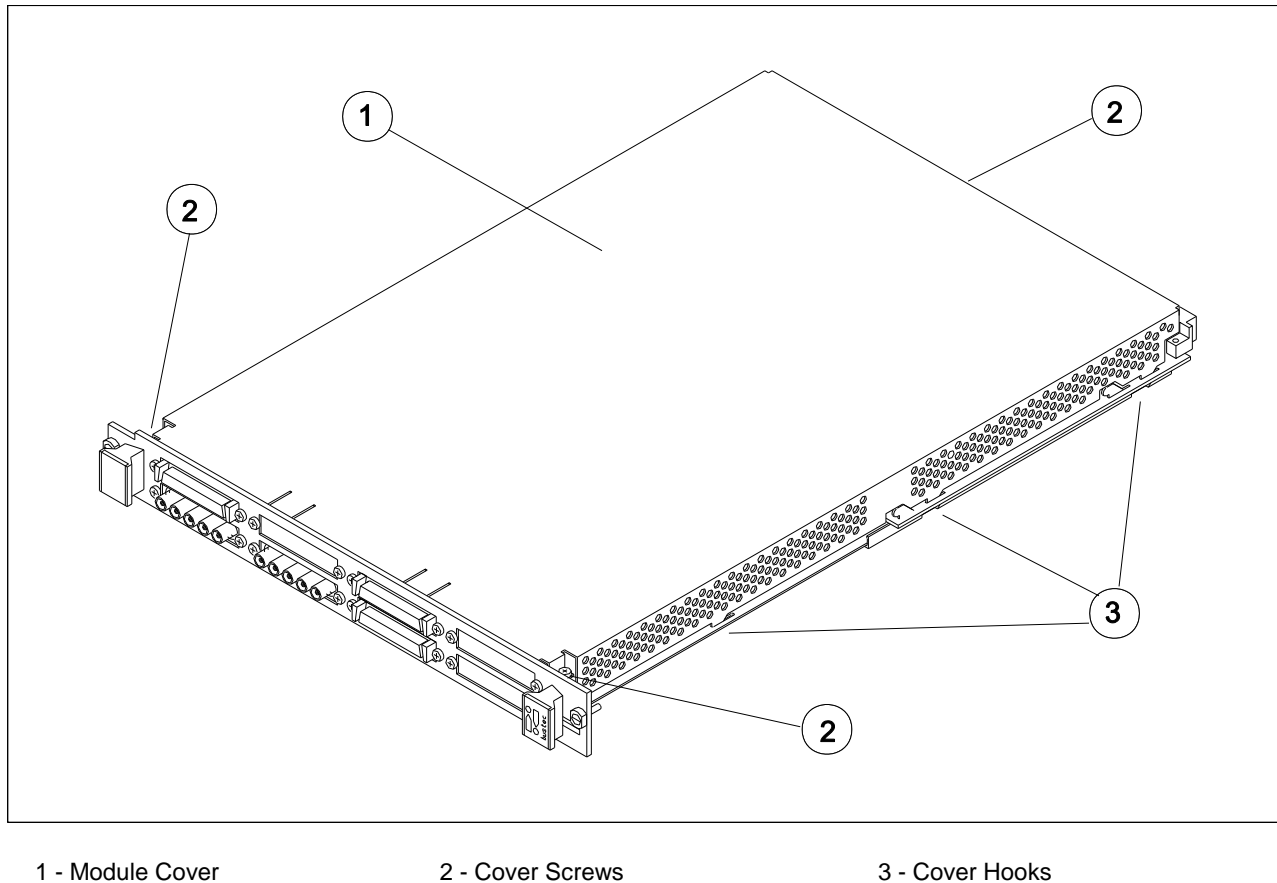

Figure 1 – Removing the ProDAQ module cover
To remove the top cover, remove the one countersunk screw in the back and the two panhead screws towards the front panel (②), that hold the cover in place. Remove the cover by sliding it out of its position towards the VXIbus connectors and up. Take special care about the hooks (③) holding it in place. Try not to lift the cover straight up. See Figure 1 for the location of the screws.